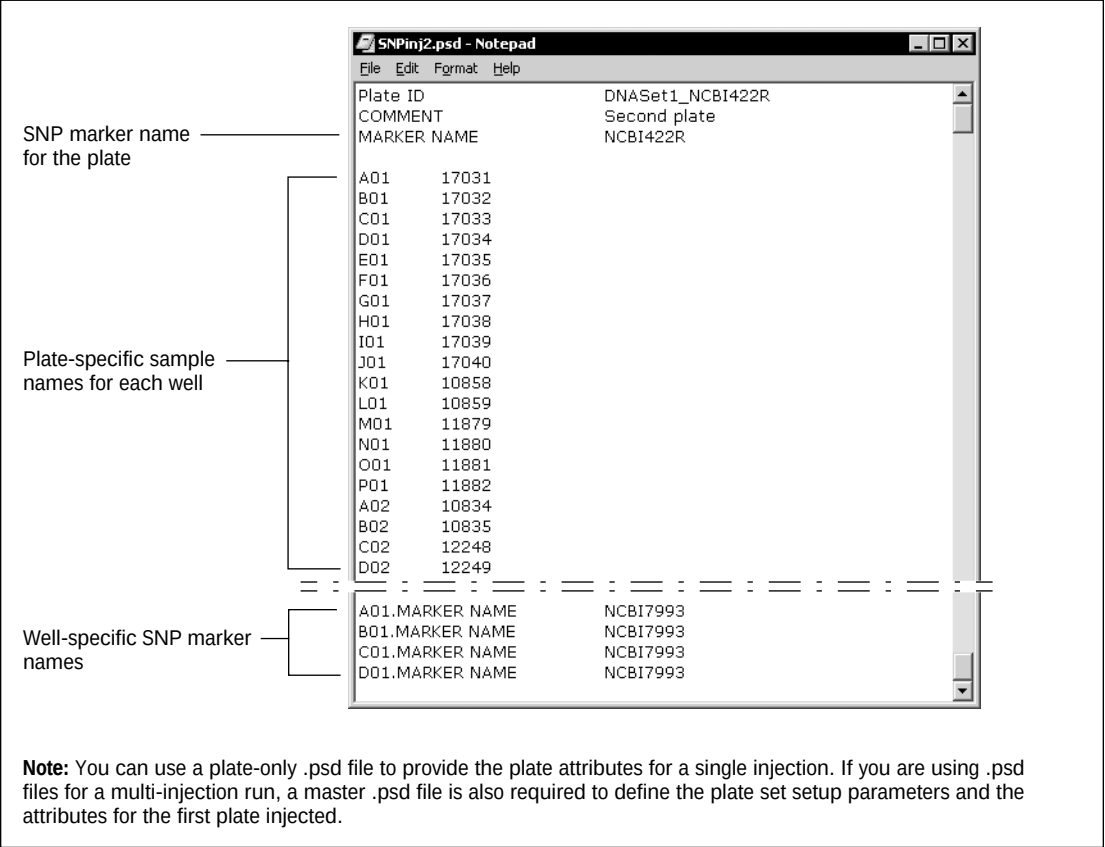

Figure 13-2. Example of a plate-only .psd file defining one plate (injection) in the plate set.
- **Plate-only .psd files**—For each plate in the plate set, you can use a plate-only .psd file to specify the plate-level and well-level information for a given plate (figure 13-2). If you want to associate a sample name with each well in a plate, you must use a .psd file to define the sample names.
- **Plate-only .psd file**—Figure 13-2 shows an example of a .psd file that defines a single plate (injection). Table 13-2 lists the plate-attribute fields you can use in a .psd file for a single plate.
Figure 13-2 shows an example of a plate-only .psd file. Table 13-2 lists the fields you can use in a .psd file to define the attributes of a specific plate in the plate set. These fields can be defined only in a .psd file. See section 13.1 for instructions on how to create the .psd file.
- **Well_ID.MARKER NAME**—Specifies the SNP marker name for the selected well ID (figure 13-2). The well-specific SNP marker name overwrites the plate SNP marker name for the given well.